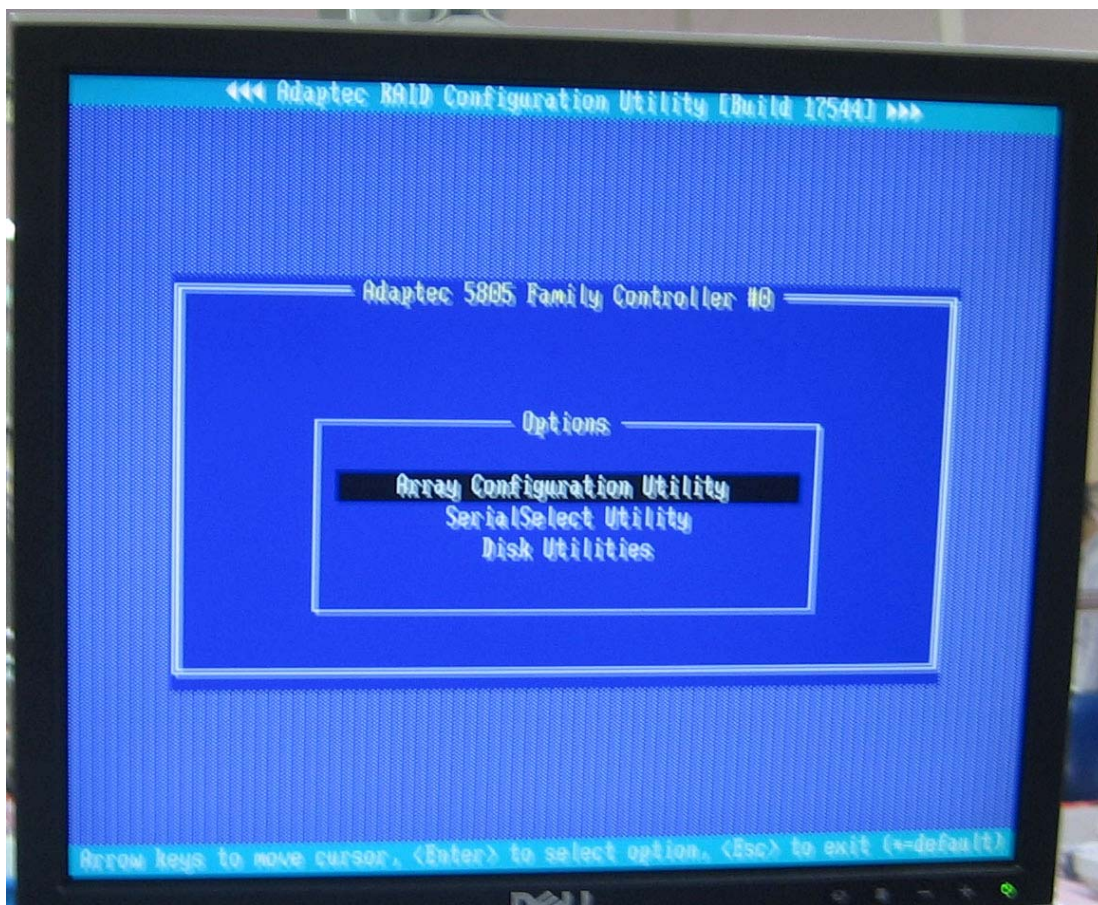

Figure 7-1 Array Configuration
2. Select **Array Configuration Utility** from the menu and press **Enter**. (Figure 7-1).